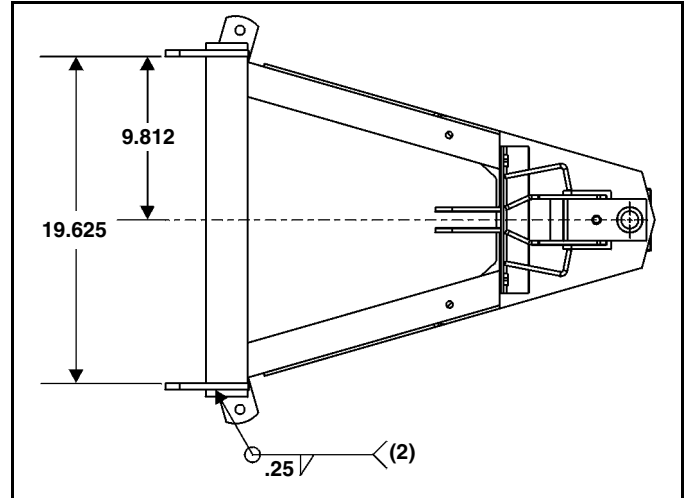

Figure 1-2
5. Weld new lugs to A-Frame. (See Figure 1-2). Use ER805-02 or equivalent wire.